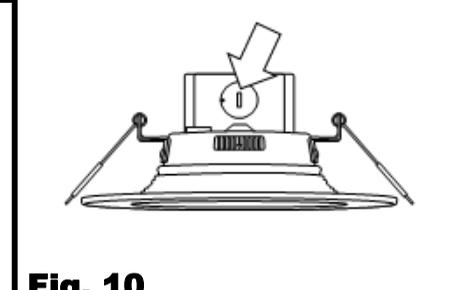

Fig. 10
1. Break off the smaller knockout of the LED trim wiring box using a screwdriver. **[Fig. 10]** Feed the frame's cable and quick connector into the wiring box.